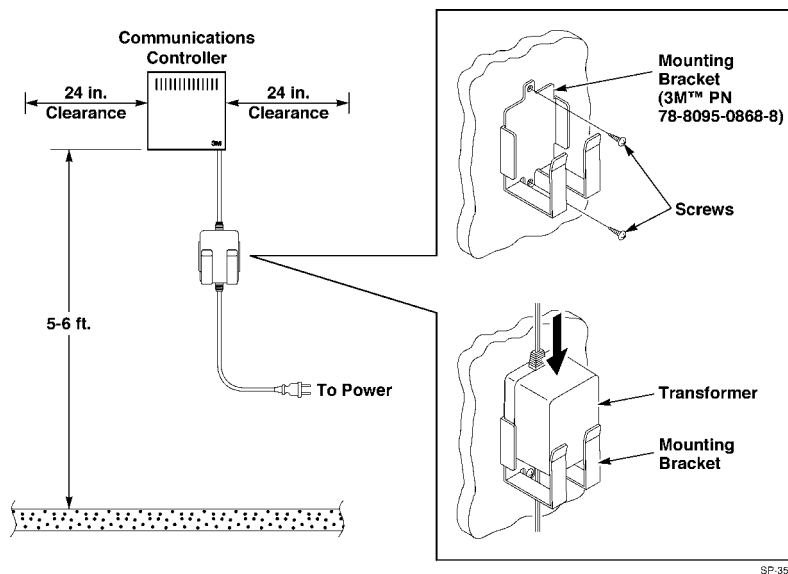

Figure 4. Suggested Communications Controller Placement
See Figure 4.
1. Install the power supply mounting bracket in a preferred location, as shown in Figure 4.
2. Insert the power supply transformer into the mounting bracket, as shown in Figure 4.